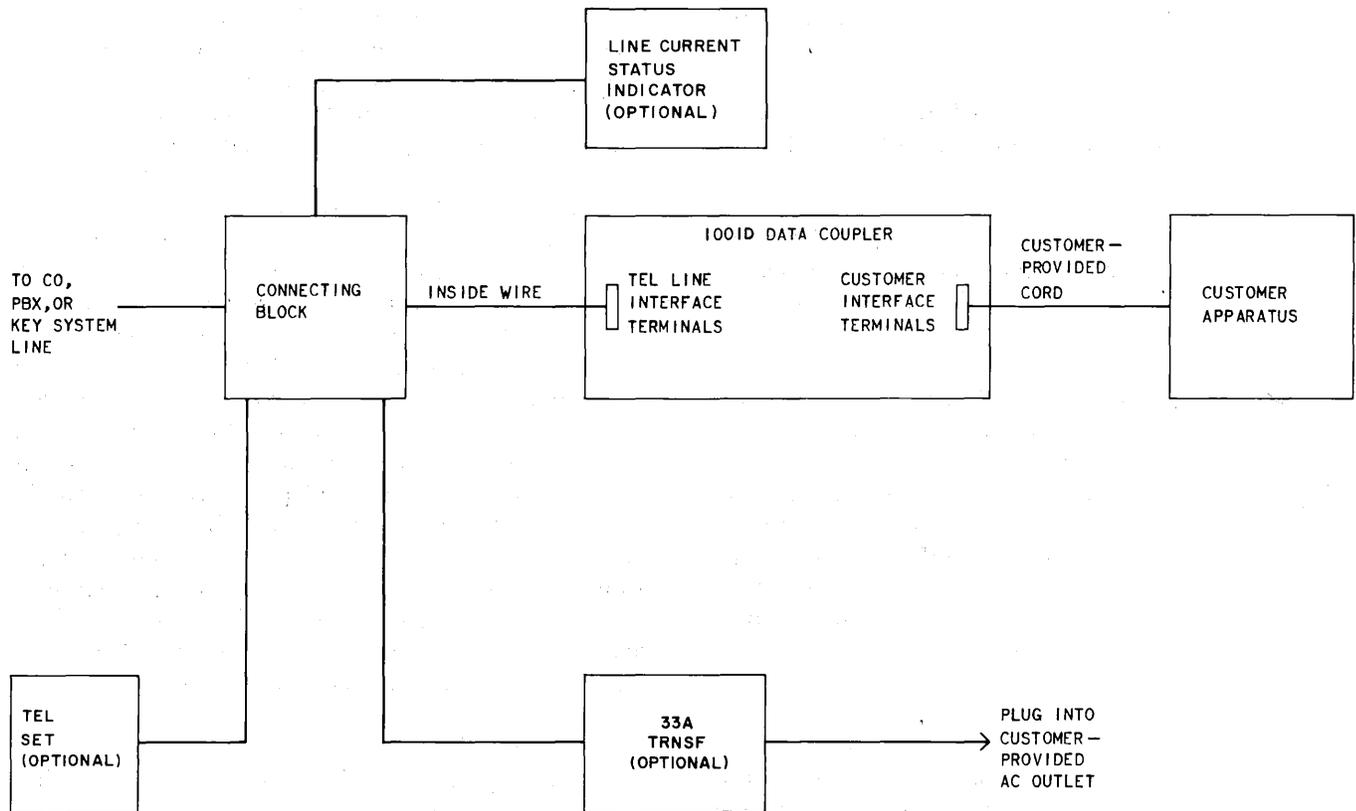
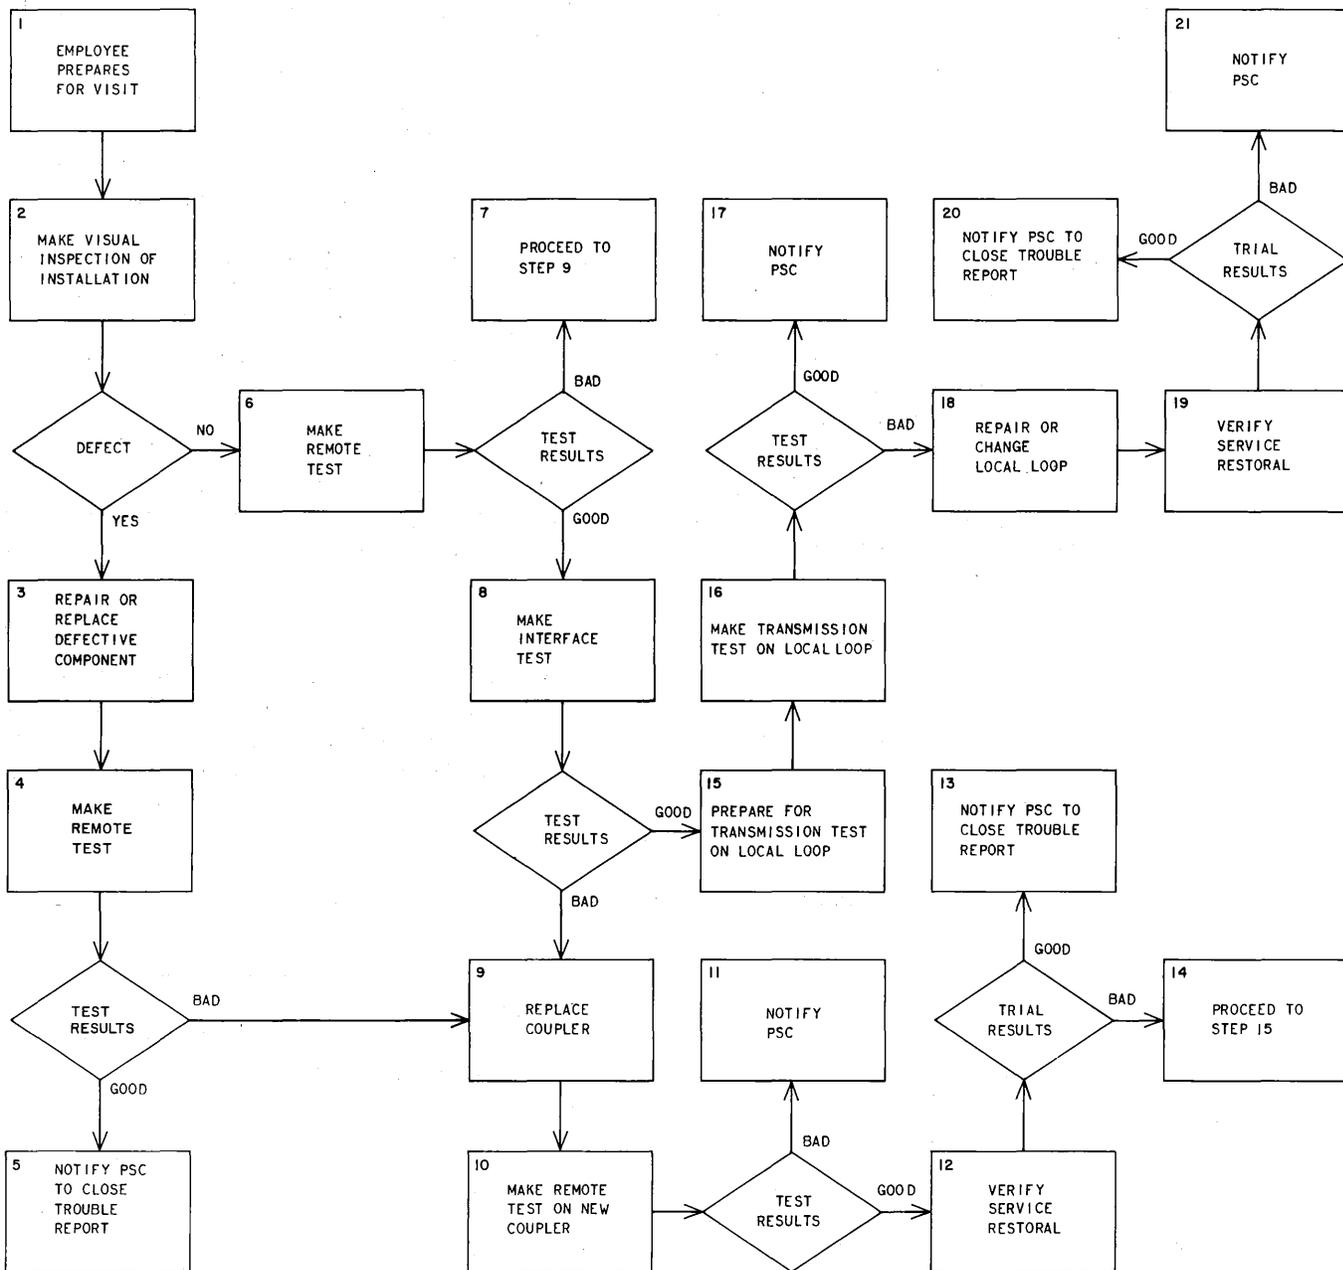

Fig. 12—Block Diagram of Typical 1001D Data Coupler Installation
Fig. 14—Activities for Troubleshooting at a Coupler Station
- (1) For all analog modems, Type II requirements should be specified.
- (2) For all other modems, requirements based on speed of modem (same as for switched DATAPHONE service) should be specified.
- (3) If the type of modem is known to be similar to a Bell System DATAPHONE data set, use the requirements for that particular data set.
4.03 Installation of the coupler should comply with general practices to ensure an orderly station arrangement. Information relating to a selection of type of connecting block and electrical code requirements is given in Section 590-010-200. See Fig. 12 for a typical interconnection block diagram.
5.06 On a maintenance visit, perform the most likely necessary tests or evaluations to isolate and clear the trouble within the station as directed by the PSC. Begin with the steps shown in Fig. 12 when test results and analysis received from the PSC lead to that particular activity. If a trouble report is not available or if the report is inconclusive, follow the suggested sequence of activities as illustrated in Fig. 14 and described in the following: